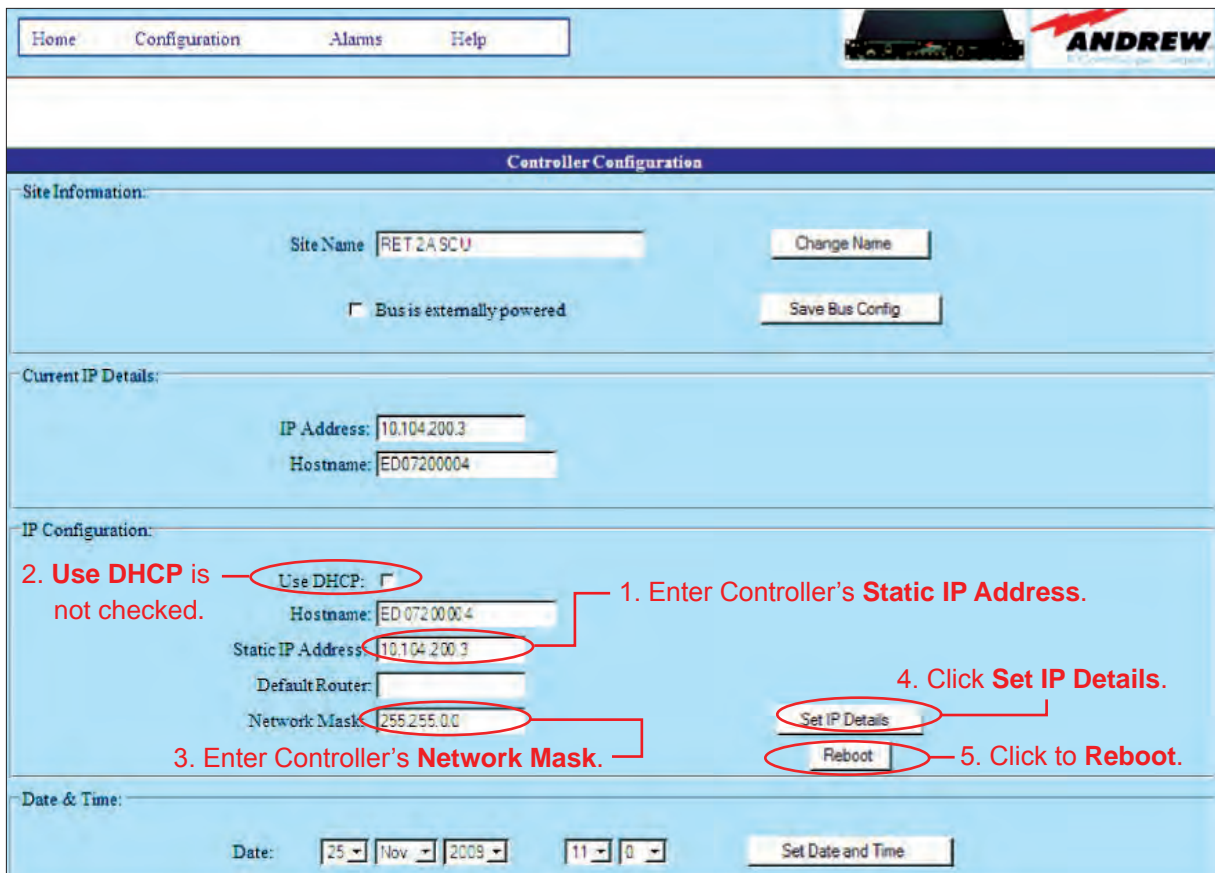

Figure 7-3. Configuring Controller's Static IP Address For Access Over a Network.
- If planning to use a static IP on your controller, initial access to the controller's configuration screen will require a direct Ethernet connection to a local computer. See Sections 3 and 4 for changing the IP setting on a local computer. Figure 7-3 (page 7-3) shows setting up controller configuration for static IP.
Settings in the controller Config window (Figure 7-3) determine if a site's network is accessed using a static IP address or DHCP.
1. Enter the static IP address provided by the Network Administrator for the controller to operate over the network system (Figure 7-3).